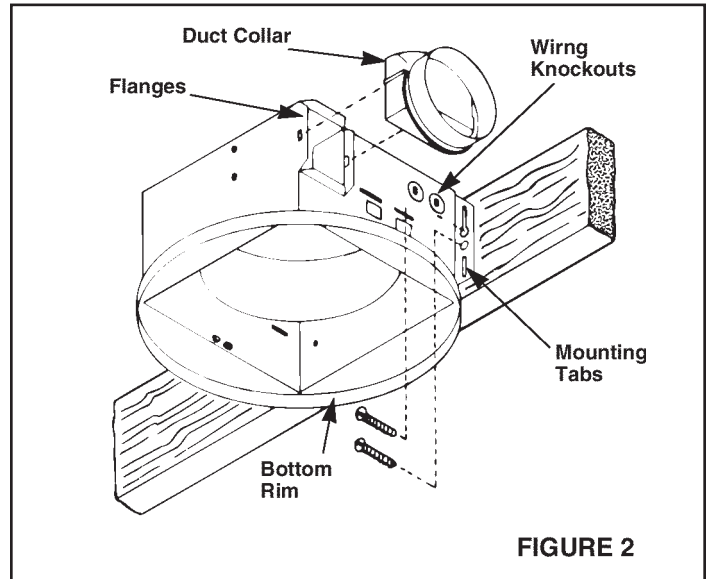

FIGURE 2
Refer to Figure 2.
1. Refer to Figure 2. Place duct collar over flanges at discharge opening of fan. Secure collar by snapping tabs into slots in flanges.